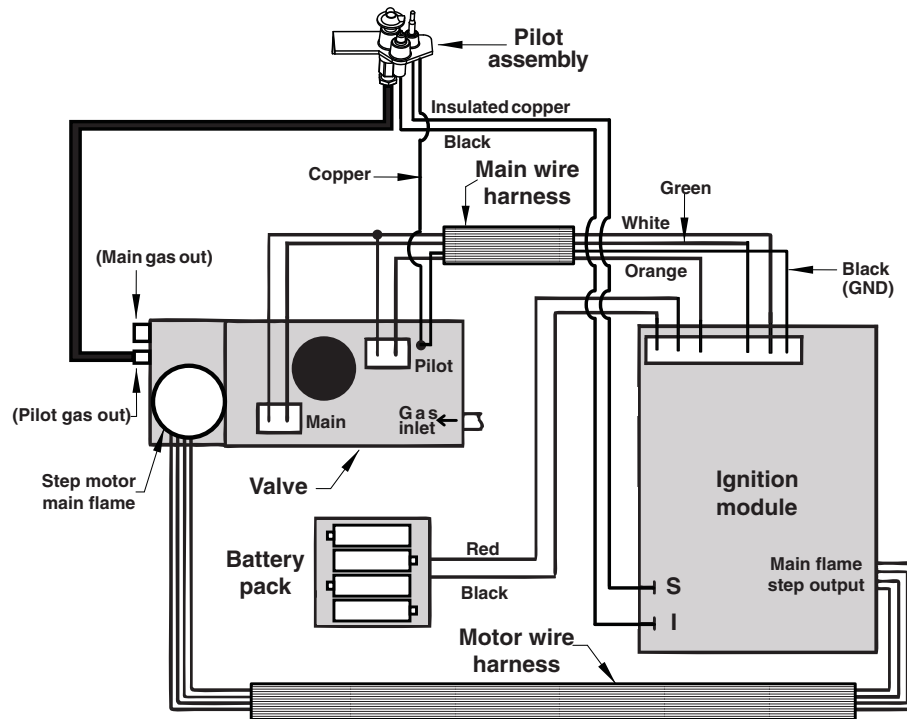

FIGURE 35
2. Place the burner system in the fireplace. Center the burner from left to right in the fireplace. Reference **Figure 35** for orientation.